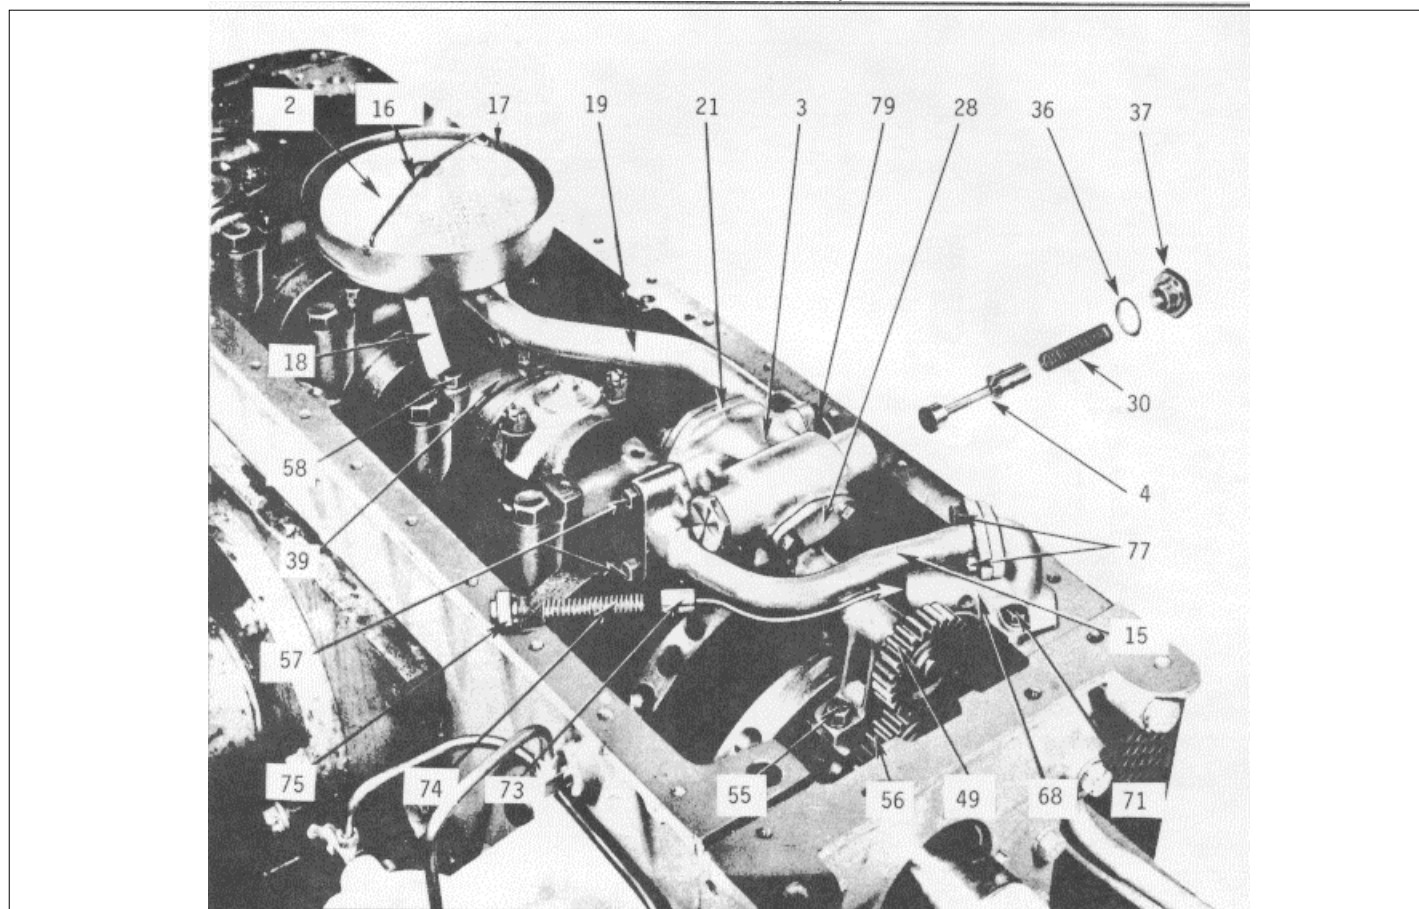

Fig. 2
- (1) Remove the drain plug from the oil pan and drain the oil.
- (2) Remove the oil pan bolts and remove the oil pan.
- (3) Remove the bolts and lockwashers securing the oil pump, regulator body and oil outlet tube and oil inlet tube support from the main bearing caps, and cylinder block (Fig. 2).